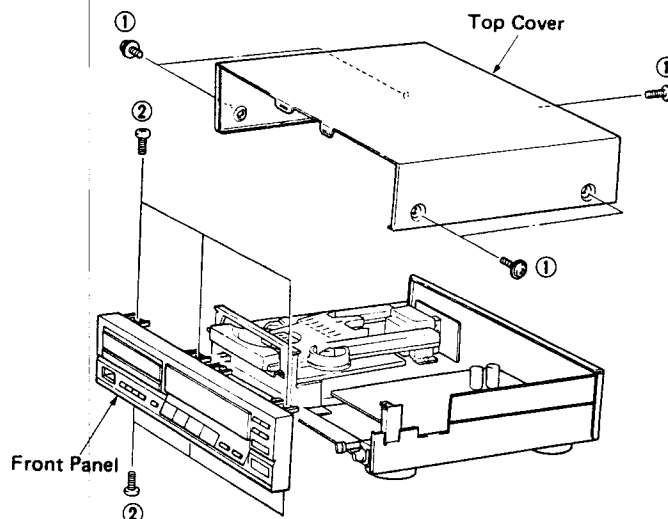

Fig. 1
- Remove 5 screws (①) in Fig. 1, and slide the Top Cover to the back side.
- Remove 6 screws (②) in Fig. 1, and pull the Front Panel forward.